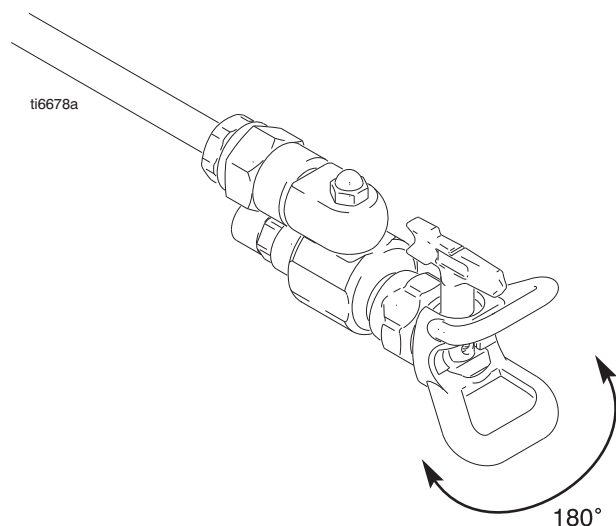
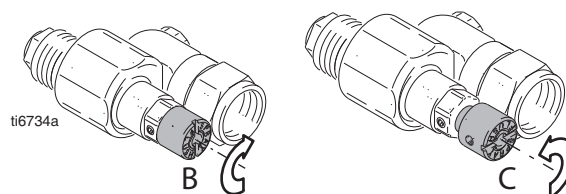

Fig.1 _____
Fig. 2 _____
Installing the Tip and Guard (Fig. 1 and Fig. 2)
- 1 Without the spray tip installed, start sprayer, turn the knob on the Low Overspray CleanShot Valve counter-clockwise to the FLUSH position (Fig. 2 [C]).
- 5 Turn the knob of the Low Overspray CleanShot Valve to SPRAY (Fig. 2 [B]).